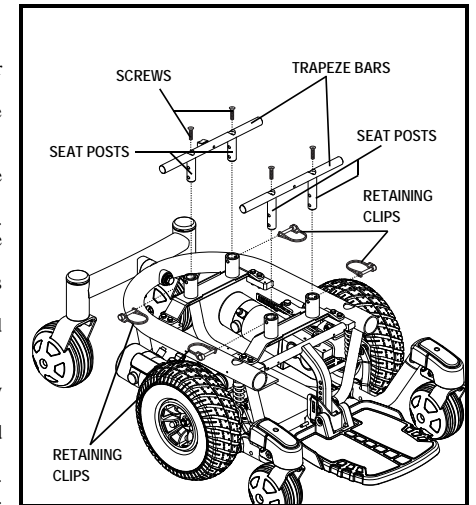

Figure 16. Seat Height Adjustment - Trapeze Bars
7. Loosen the screws that attach the trapeze bars to the seat posts. **See figure 16.**
8. Remove the retaining clips that secure the seat posts to the power base. **See figure 16.**